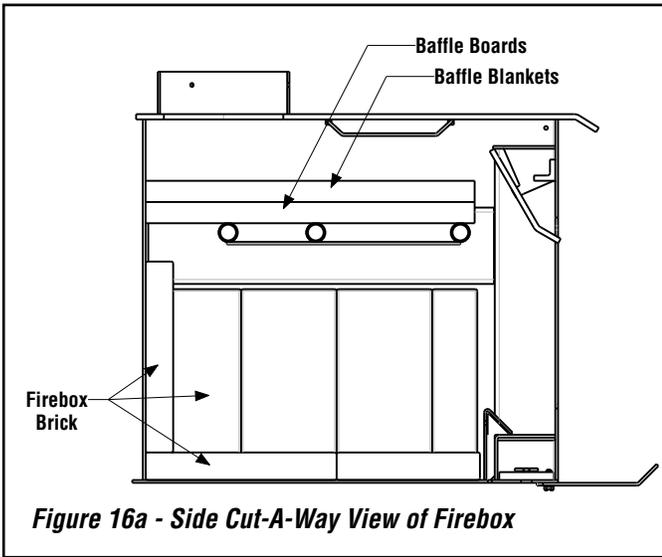

Figure 16a - Side Cut-A-Way View of Firebox
2. Install the baffle boards. All baffle boards included are the same size (see **Figures 16a and 16b on Page 14**). Start by inserting the boards sideways between the front and middle tubes, then rotate pieces so the long side is going from the back of the unit to the front of the unit. Then slide the pieces left-to-right individually until all pieces fit between the left and right sides of the firebox flush above the tubes, making sure there is no gap at the back of the firebox (see **Figure 16a on Page 14**).
3. Also included with the unit are two baffle blankets (see **Figures 16a and 16b on Page 14**). Install each blanket above the baffle boards with the long side of the blanket from front to rear of the unit. Make sure that the baffle blankets are to the full rear of the unit.